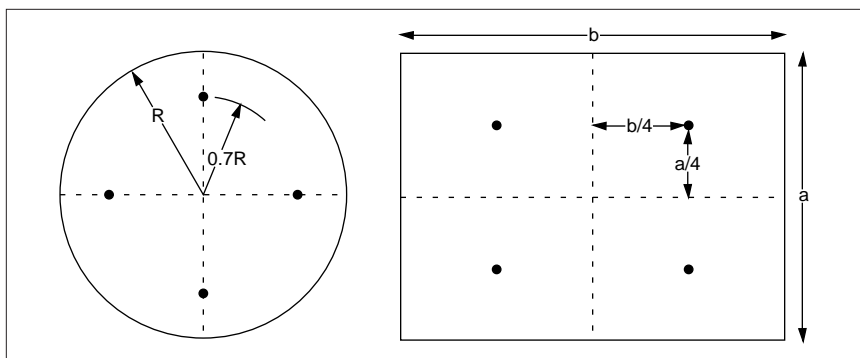

Figure 3
For measurements in ducts, pipes, or other internal flows, use a 1/4 inch compression tube fitting x 1/4 inch NPT, or other suitable bulkhead fitting, inserted over the probe and screwed into the duct. Nylon or Teflon ferrules are desirable so that the probe can be traversed easily over the cross section of the duct to get the total mass flow rate. The circumferential scribe marks on the probe, 1 inch apart, aid in traversing. After traversing, the probe can be permanently located at the average velocity point in the duct, and the compression fitting tightened. Figure 3 shows the best velocity measurement points in circular and rectangular ducts or stacks.
2. See Section 5, PREPARATION FOR USE OF YOUR FLO-MULTIMETER™ for a discussion of probe lengths. Figure 3 gives the recommended velocity measurement points in ducts and stacks.